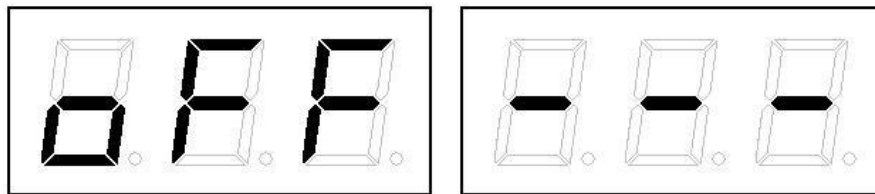

Figure 3.8 Balance block split hide function is not available
- If the outer unbalance value is 0, the machine will display the information shown in Figure 3.8 for 2 seconds, and the buzzer will emit 3 short beeps, indicating that the operation is not available.